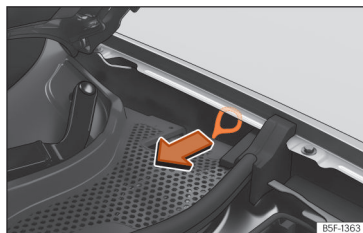

Fig. 62 Between the left wing panel and the engine bonnet hinge: Charging connector manual release mechanism puller.
The puller for the manual release mechanism is on the left hand side of the engine compartment, above the charging socket  Fig. 62.
- Pull the puller >>> Fig. 62.